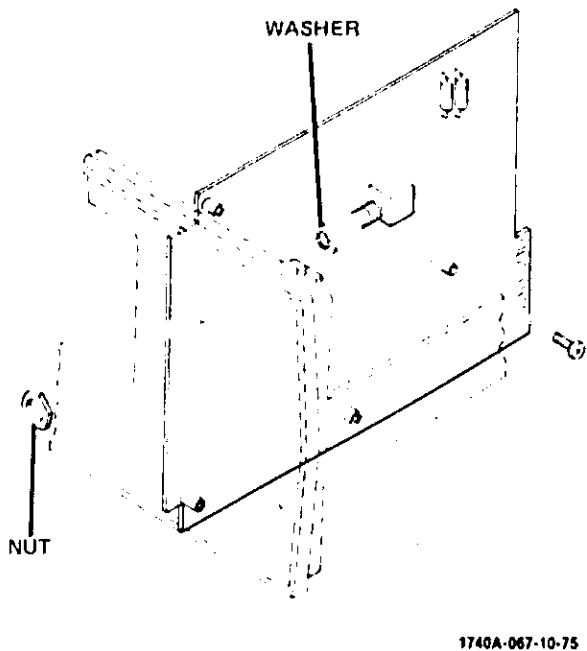

Figure 8-25. Location of A7 Attaching Screws
- Remove four screws holding A7 to sheet metal (figure 8-25).